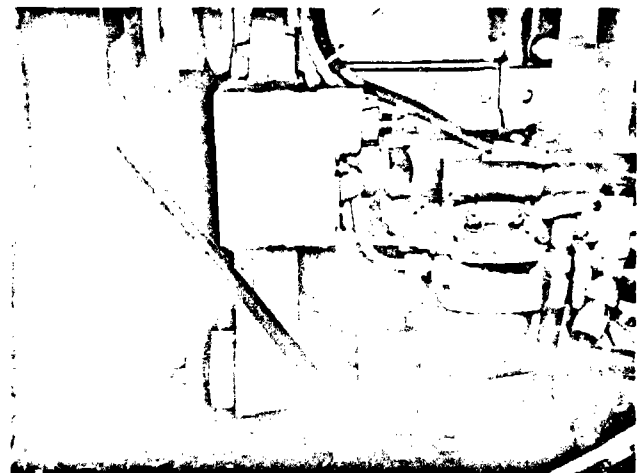

Fig. 2-51, (K11919). Engine barring arrangement — KT(A)-1150
**Note:** Do not use the fan to rotate the engine. Remove the shaft retainer key. Fig. 2-51, and press the shaft inward until the barring gear engages the drive gear; then advance. After the adjustments are complete retract the shaft and install the retainer key into the safety lock groove.